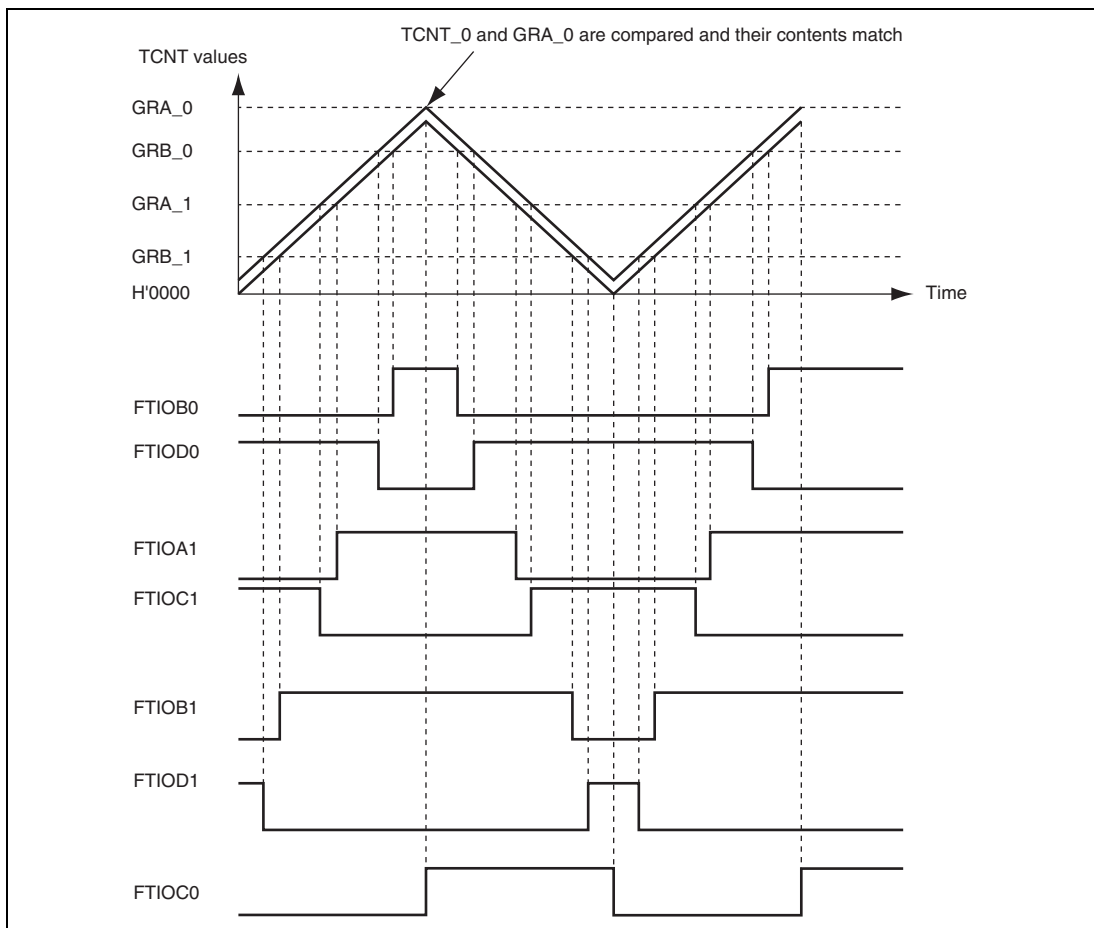

Figure 12.31 Example of Complementary PWM Mode Operation (1)
2. Examples of Complementary PWM Mode Operation: Figure 12.31 shows an example of complementary PWM mode operation. In complementary PWM mode, TCNT_0 and TCNT_1 perform an increment or decrement operation. When TCNT_0 and GRA_0 are compared and their contents match, the counter is decremented, and when TCNT_1 underflows, the counter is incremented. In GRA_0, GRA_1, and GRB_1, compare match is carried out in the order of TCNT_0 → TCNT_1 → TCNT_1 → TCNT_0 and PWM waveform is output, during one cycle of a up/down counter. In this mode, the initial setting will be TCNT_0 > TCNT_1.